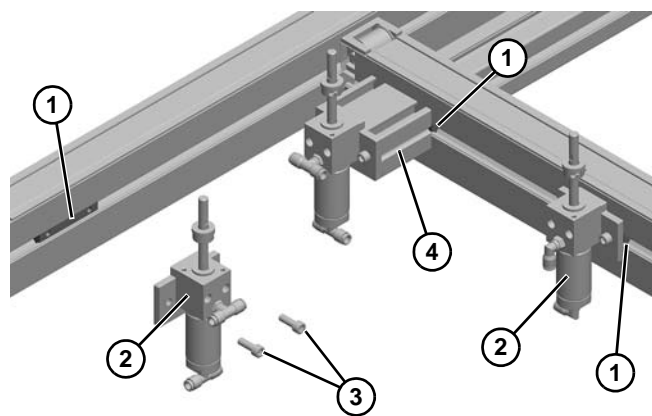

Figure 85
1. Install drop-in tee bars (**Figure 85, item 1**) in conveyor rail channel.
2. Loosely fasten two cylinder assemblies (**Figure 85, item 2**) to conveyor rail with socket head screws (**Figure 85, item 3**) as shown (notice fittings).
3. Repeat for cylinder assembly with spacer (**Figure 85, item 4**).